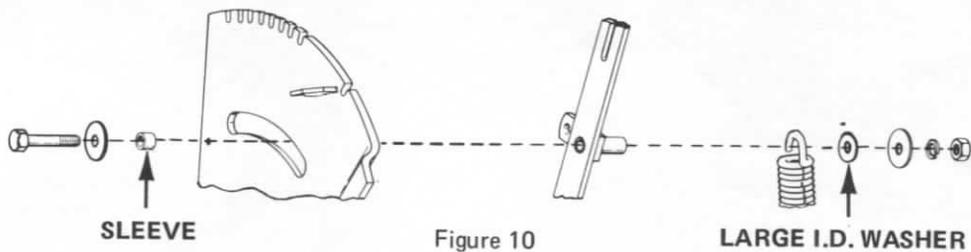

Figure 10
2. Remove preassembled nut, bolt, sleeve and washers from lift lever. (Refer to Figure 10.)
6. Carefully pull lift lever to one of the first notches and install bolt, sleeve, washers and nut as illustrated (See Figure 10.)